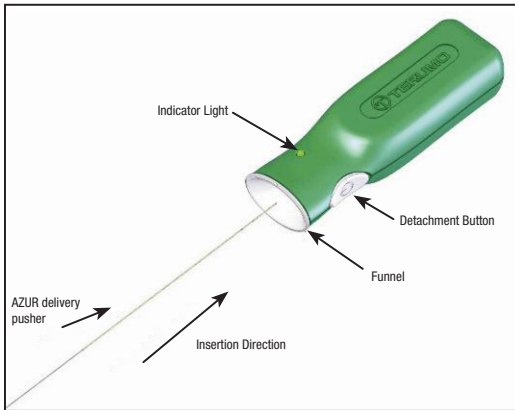

Figure 2 – AZUR Detachment Controller
15. Prior to using the device, remove the proximal end of the delivery pusher from the packaging hoop. Use care to avoid contaminating this end of the delivery pusher with foreign substances such as blood or contrast. Firmly insert the proximal end of the delivery pusher into the funnel section of the AZUR Detachment Controller. See Figure 2. **Do not push the detachment button at this time.**